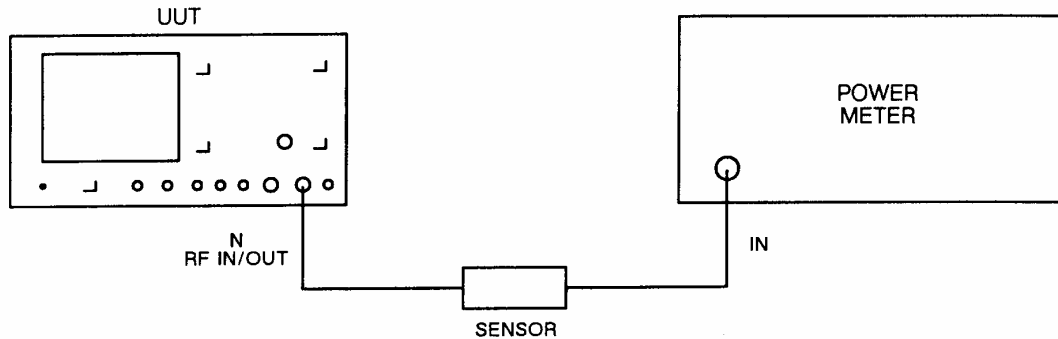

Fig. 5-2-11 Test equipment connections for adjusting R20 on AB6/I
- (1) Connect the equipment shown in Fig. 5-2-11 via the 6912 sensor.
- (2) Set the UUT to RX, RF generator frequency 300 MHz, level -15.5 dBm, increment 1 dB, modulation off, N-type socket.